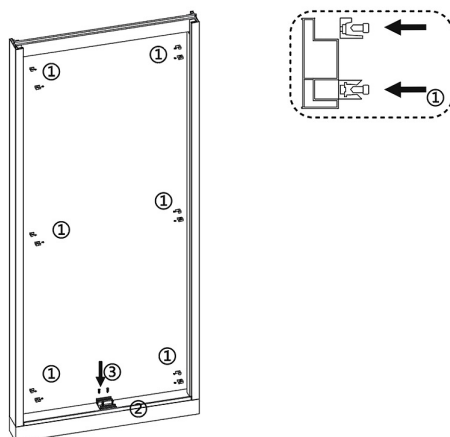

FIGURE 3
(See Figure 3). Install jamb bumpers then tighten the screws (1).